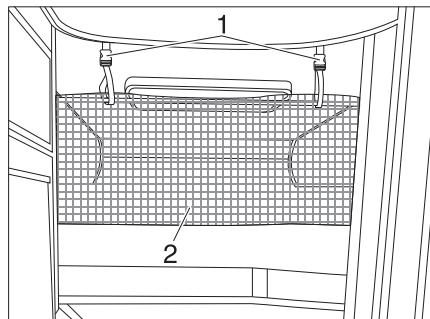

Fig. 164 Safety net
- Fasten the retaining straps (Fig. 164,1) to the holders on the ceiling (Fig. 164,2).